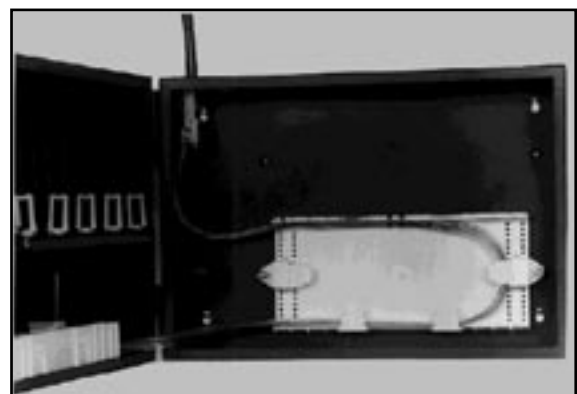

FIGURE 6 - ROUTING TRANSPORT TUBES IN WDC12 CABINET (FOR CABLE ENTERING TOP OF CABINET)
4.13 In the WDC12 Cabinet, route the Transport Tubes around the Transition Assembly, out the bottom left corner, across the hinge, and into the back left corner of the Transition Assembly in the center section. (Figure 6) If the Transition Assembly in the rear section is in the upper position (bottom cable entry), route the Transport Tubes through the Management Hoop before crossing the hinge.